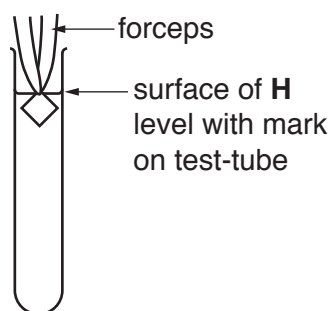

Fig. 1.1
14. Hold the square just below the surface of **H** so that the top of the square is level with the surface of **H** as shown in Fig. 1.1.